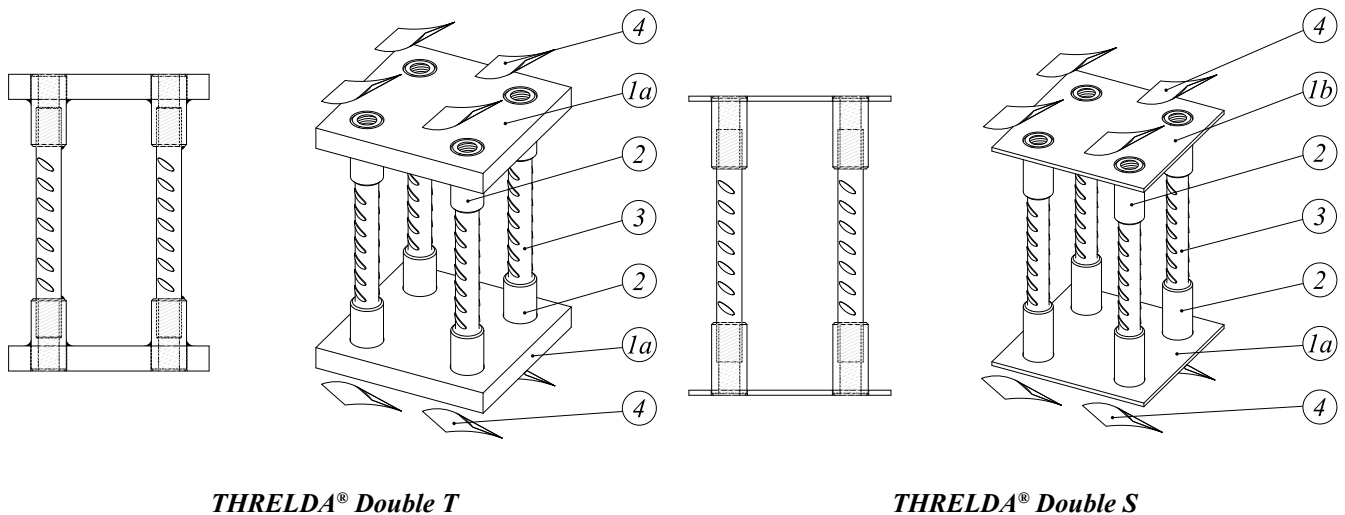

Figure 3. THRELDA® Double Anchor Plates.
Both THRELDA® Double T and S models, presented in Figure 3, include two steel plates (1a or 1b), threaded couplers (2), bars connecting plates (3) and thread protection tapes (4). Couplers at both sides of rebar are welded at the steel plates.